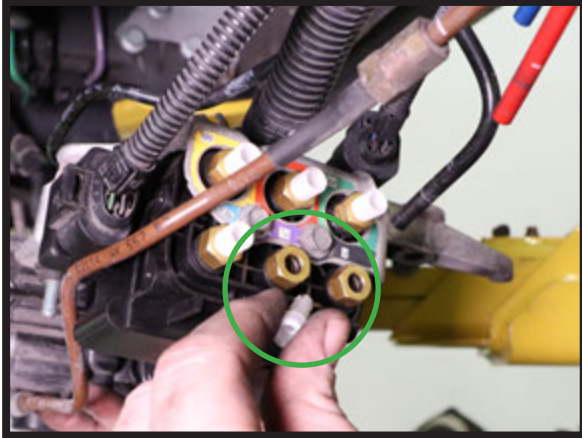

FIGURE 18
4. REMOVE THE SHIPPING PINS FROM THE VALVE BLOCK. INSERT AIRLINES IN THE PROPER FITTINGS. PUSH THE AIR LINES IN UNTIL THEY ARE FIRMLY SEATED. (FIGURES 18, 19, 20)